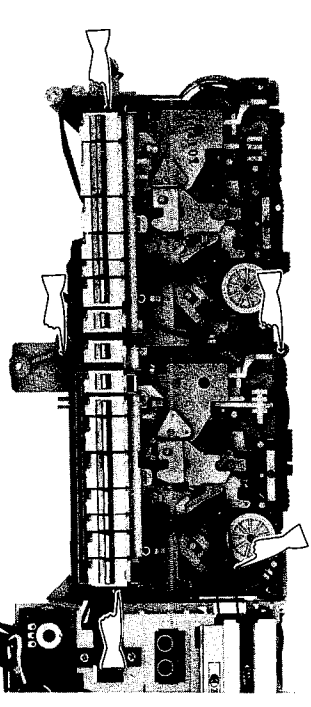

Figure 6-5
2. Detach the tape counter drive belt from the tape take-up reel disk. Remove four screws at the mechanism block, and shift the mechanism block forwards and detach. See Fig. 6-5.